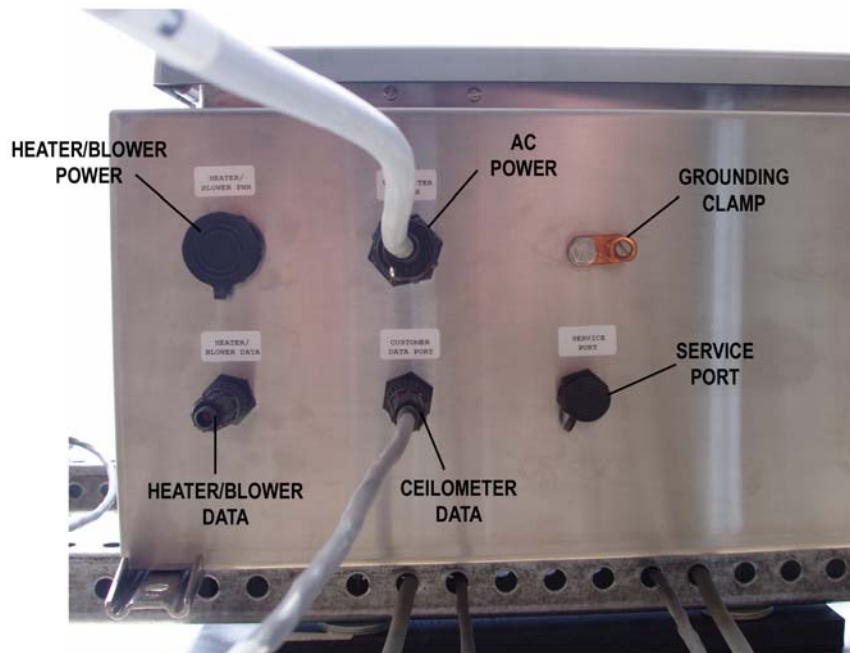

Figure 2. Ceilometer Connectors
2. Connect the power cord's circular connector to the INPUT POWER connector on the underside of the ceilometer (see Figure 2).
1. Connect the data cable's circular connector to the CEILOMETER DATA connector on the underside of the ceilometer (see Figure 2).